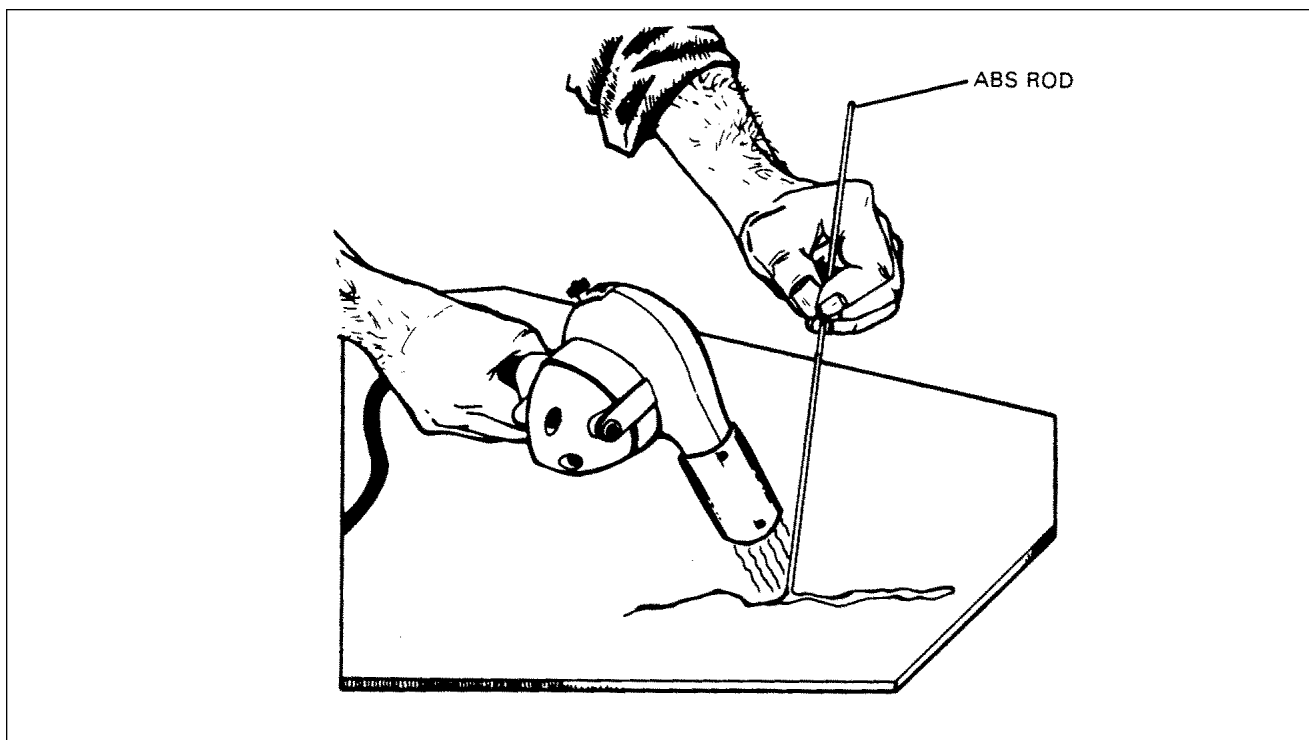

Figure 51-6. Welding Repair Method
- i. The welding method requires a hot air gun and ABS rods. To weld, hold gun to direct the flow of hot air into repair zone. Heat damaged area and rod simultaneously. Move the gun continuously in a fanning motion to prevent discoloration of material. Pressure must be maintained on rod to ensure good adhesion (Refer to Figure 51-6).